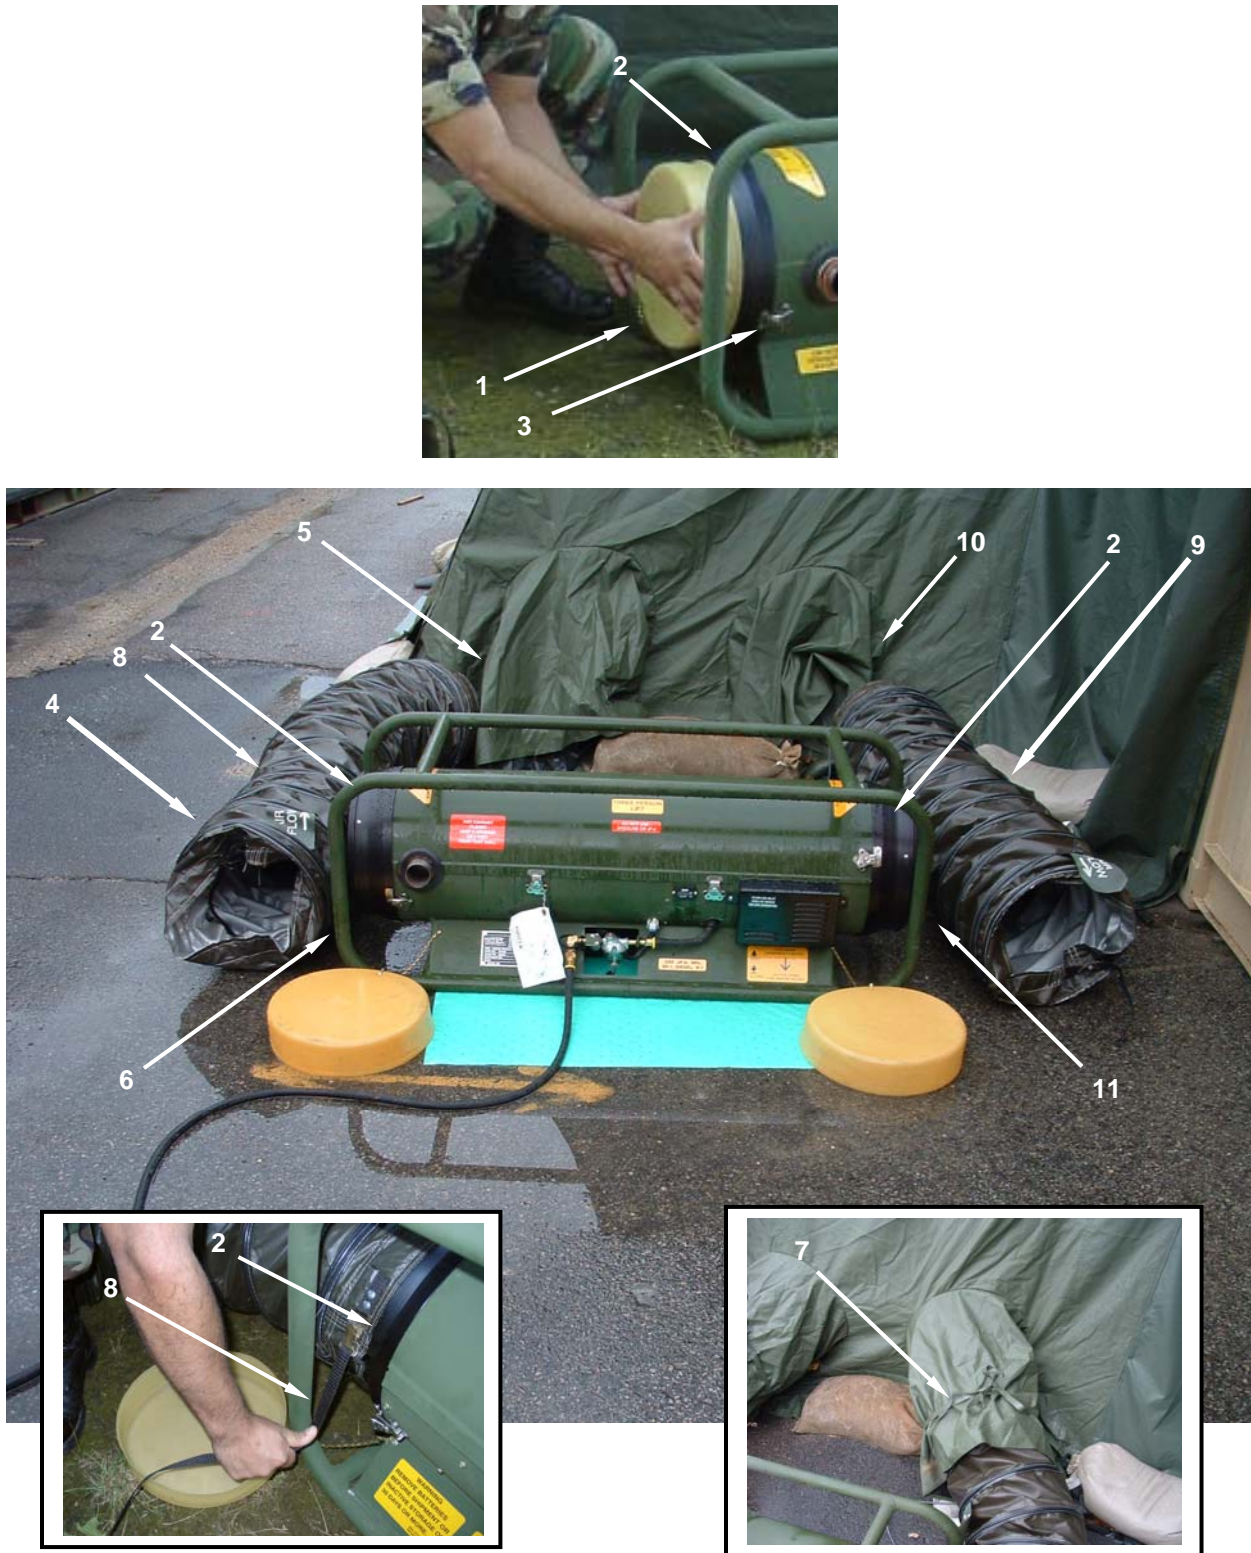

Figure 19. Installing the Air Supply and Return Ducts
1. Remove dust covers (**Figure 19, Item 1**) from heater assembly duct adapters (**Figure 19, Item 2**). Make sure that each of the duct adapter assemblies are securely attached to the heater housing assembly by two fasteners (**Figure 19, Item 3**). The fasteners must be tightened securely and in the locked position in the grooves located on the heater housing assembly.
2. Designate the heated air return duct (**Figure 19, Item 4**). The heated air return duct will be installed with the air flow arrow pointing away from the heater. Make sure inside and outside of duct and the debris grill are free of damage, dirt, and obstructions prior to attachment to the heater assembly.
3. Insert the end of the heated air return duct (**Figure 19, Item 4**) that the air flow arrow is pointing TO into the tent duct tunnel (**Figure 19, Item 5**) closest to the heated air outlet end (**Figure 19, Item 6**) of the heater as indicated by the label “Heated Air Outlet” on the upper housing assembly.
4. Secure the tent duct tunnel tie straps (**Figure 19, Item 7**). Do not secure the straps so tightly that the air flow within the duct is restricted. Attach the open end of the duct to the duct adapter (**Figure 19, Item 2**) on the outlet side of the heater. This is the end of the heater closest to the heated air outlet end (**Figure 19, Item 6**). Position the strap in the landing zone (groove) of the duct adapter, and then tighten the duct strap (**Figure 19, Item 8**) securely on the duct adapter.
5. The remaining duct will be designated the air supply duct (**Figure 19, Item 9**). The air supply duct will have its air flow arrow pointing towards the heater. Make sure inside and outside of duct and the grill are free of damage, dirt, and obstructions prior to attachment to the heater assembly.
6. Insert the end of the air supply duct (**Figure 19, Item 9**) the flow arrow is pointing AWAY from into the tent duct tunnel (**Figure 19, Item 10**) closest to the breathable air inlet (**Figure 19, Item 11**) of the heater (as indicated by the label “Breathable Air Inlet” on the upper housing assembly).
7. Secure the tent duct tunnel tie straps (**Figure 19, Item 7**). Do not secure the straps so tightly that the air flow within the duct is restricted. Attach the open end of the duct to the duct adapter (**Figure 19, Item 2**) on the breathable air inlet side of the heater. This is the end of the heater farthest from the heated air outlet end (**Figure 19, Item 6**). Position the strap in the landing zone (groove) of the duct adapter, and then tighten the duct strap (**Figure 19, Item 8**) securely on the duct adapter.